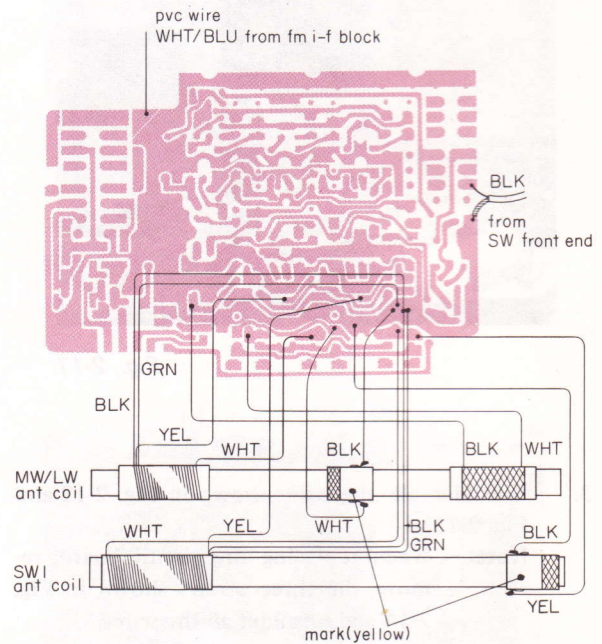

Fig. 2-18
8. Unsolder all the wires shown in Fig. 2-18.